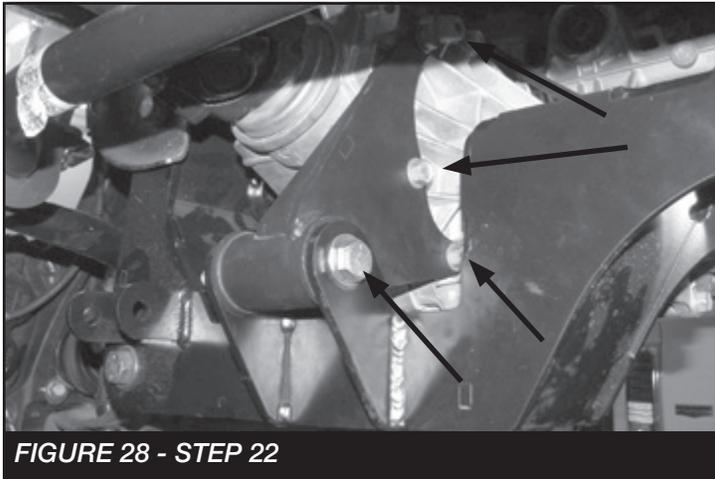

FIGURE 28 - STEP 22
24. Install diff bracket using the factory bolts and the 1/2-13x41/2" bolt, nut, and washers. **SEE FIGURE 28**